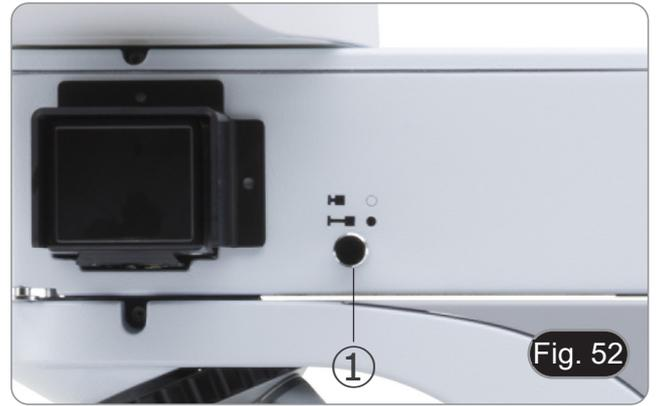

Fig. 51
2. Move the filter slider ② all the way in. (Fig. 51)